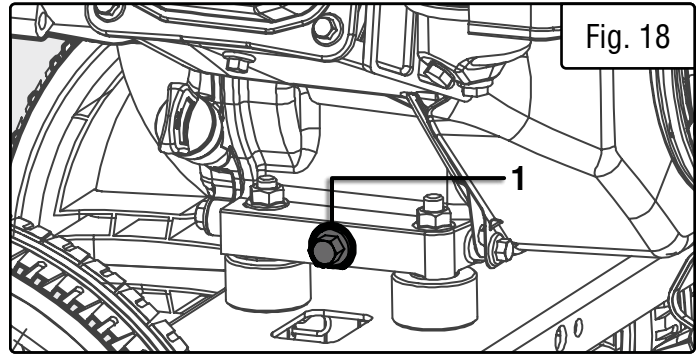

Fig. 18
2. Place an oil pan on the ground to catch oil. Remove the oil drain bolt (Fig. 18 - 1) then tilt pressure washer back and to the side to empty out the oil from the crankcase.